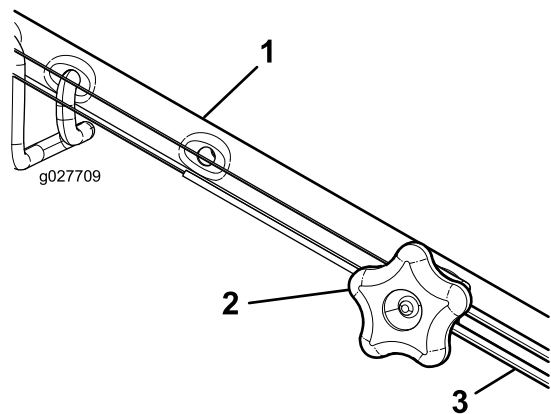

Figure 38
1. Turn the adjustment knob counterclockwise to loosen the cable adjustment (Figure 38).
- Adjust the tension on the cable (Figure 38) by pulling it back or pushing it forward and holding that position.